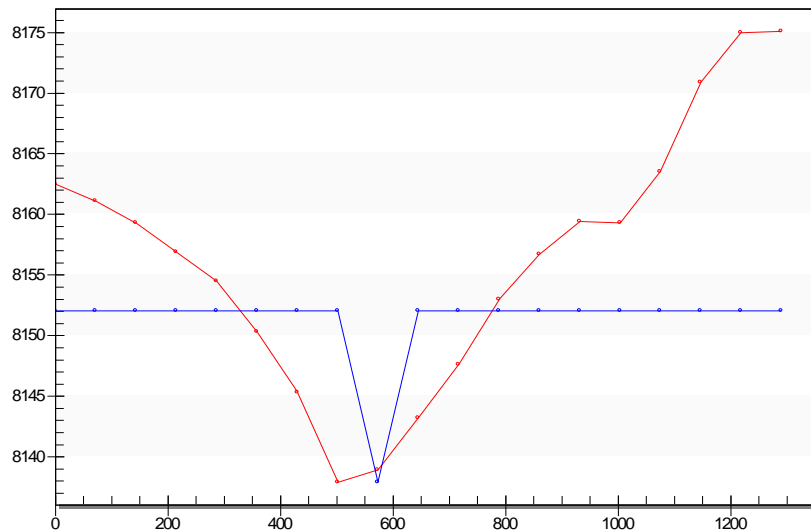

Figure 2 DEM Elevation Profile Plot
10. Select the *Snap roadway profile to culvert* option. The DEM elevation profile plot should look similar to Figure 2.